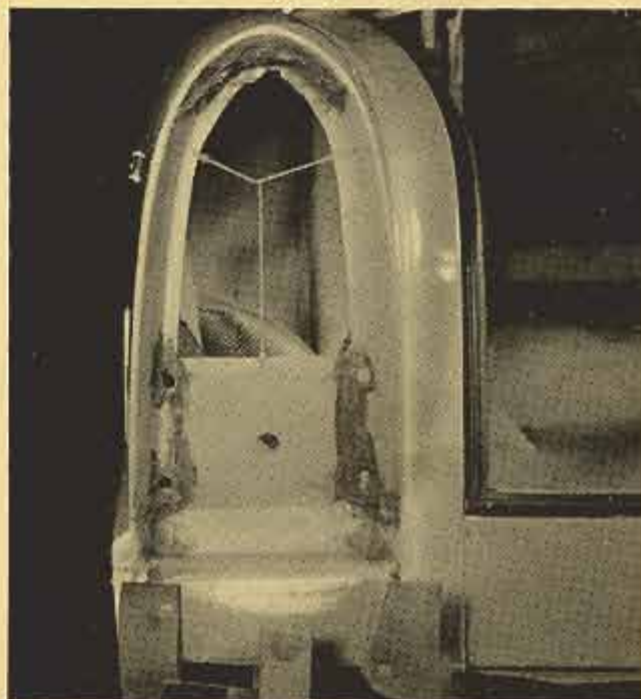

Fig. 2
2. Make sure that the gasket seat flange is smooth and even, see arrow figure 2. Inspect the box section in the fender below the tail lamp opening for pin